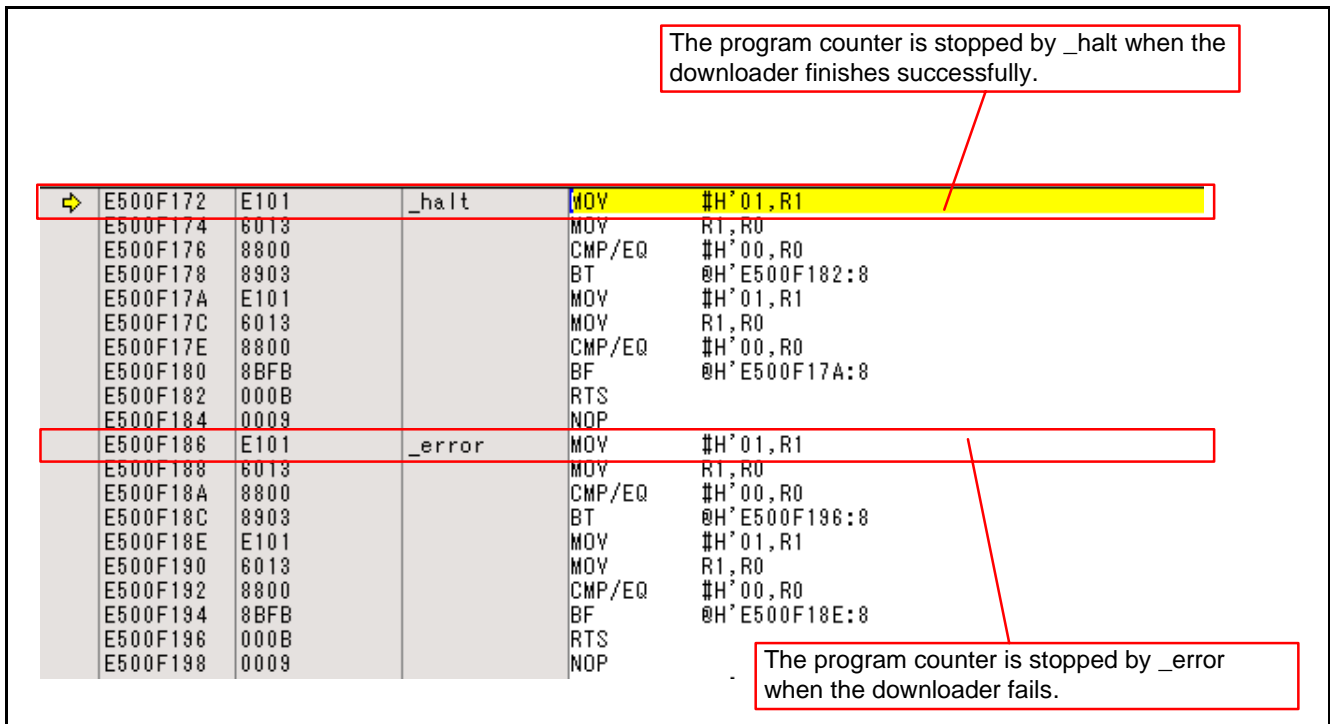

Figure 10.4 High-performance Embedded Workshop Screen when Downloader Ends
7. When the batch file [downloader.hdc] is run, all the download modules registered in the workspace (the loader program, application program, and downloader) are transferred to the RAM and the downloader is launched. As shown in figure 10.4, the program counter is stopped by halt when the downloader finishes successfully and it is stopped by error when the downloader ends with an error.